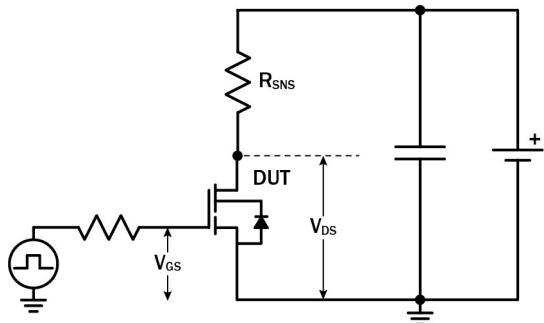

Figure 18. Dynamic $R_{DS(on)eff}$ Test Circuit
- a. Dynamic $R_{DS(\text{on})}$ value; see Figures 18 and 19 for conditions